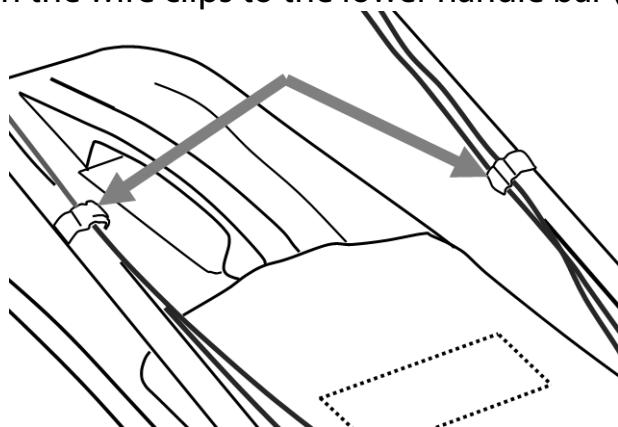

Fig.3
- ◆ Fix the wires with the wire clips to the lower handle bar (Fig.3).